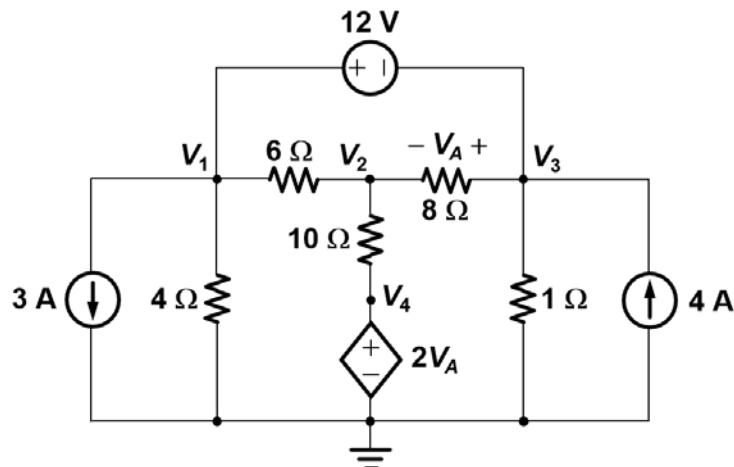

Fig. 4
4. (20 points) Use nodal analysis to find V_1 , V_2 , V_3 , and V_4 for the circuit shown in Fig. 4.